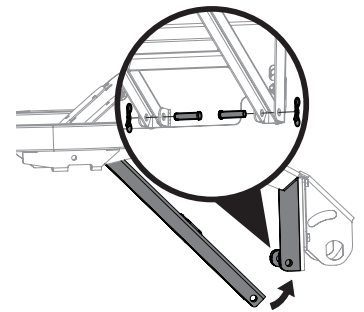

Figure 5
- Swing "H" assembly bracket previously installed up to meet front mounting bracket. See Figure 5.
**NOTE:** "H" bracket assembly arms should fit between the two sets of U-channels on backside of front mounting bracket. See Figure 5.
- Working from the inside out, secure with two clevis pins (711-05217) and two bow tie pins (714-05005) from hardware pack 689-02139. See Figure 5 inset.